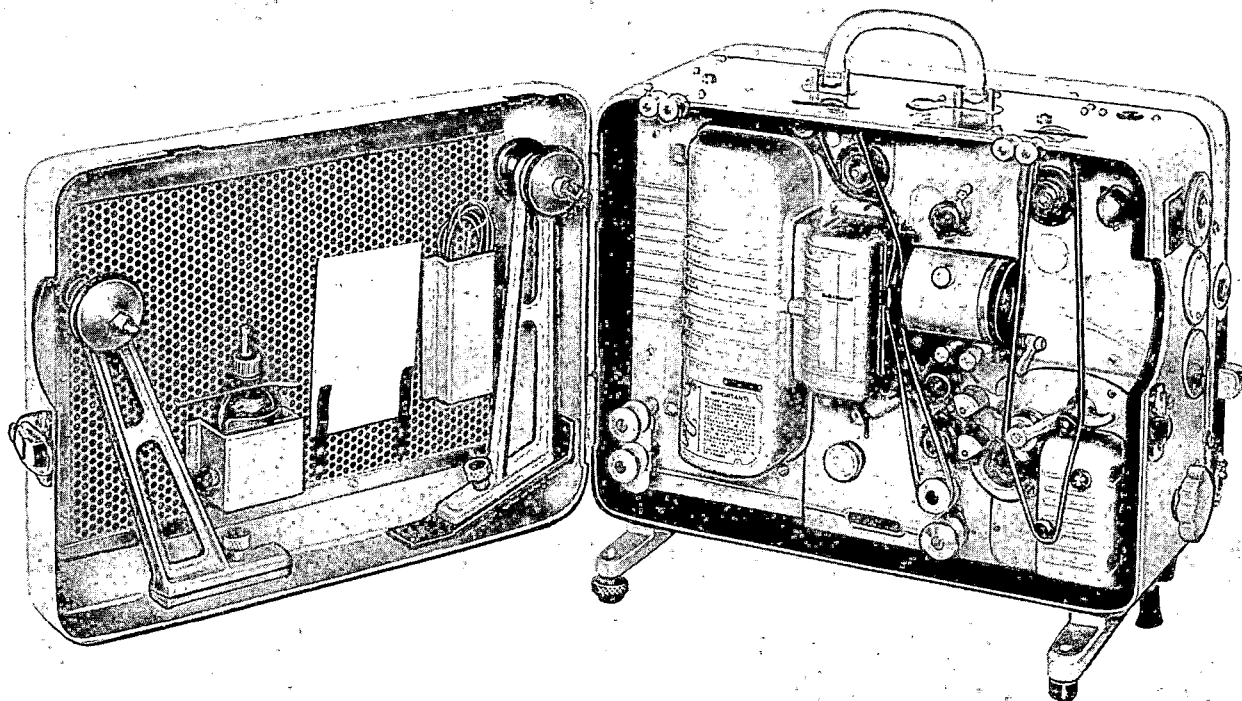

Figure 1. Design 614 CB Projector — Overall View
**4. AMPLIFIER AND SPEAKER ASSEMBLY.** (See Parts Catalog figure 1.) The amplifier housing is secured to the projector case by six screws (23) and lock washers (24) located at the top, front and bottom of the case and three screws (25) and lock washers (26) which also serve to fasten one edge of the switch plate (30) to the amplifier case. Remove these screws and carefully pull the amplifier away from the projector case until the leadwires are exposed. Disconnect leadwires as required, and separate the amplifier assembly from the projector case.
**5. SWITCH PLATE ASSEMBLY.** (See Parts Catalog figure 1.) Remove screws (28), lock washers (29) and junction box front plate (27). Remove screws (33 and 34), elastic cam lock stop nuts (35) and cable clamp (36) to free junction box. Unsolder fuseholder and receptacle leadwires within the junction box. Note wiring harness connections to various projector components. Two small, shielded wires from sound head assembly must be disconnected at the OFF-MOTOR-LAMP switch and unwound from harness. The ground terminal at one end of large, shielded harness is fastened to mechanism plate just behind projection lamp socket. Two leadwires must be disconnected from the lampholder behind the junction box. The